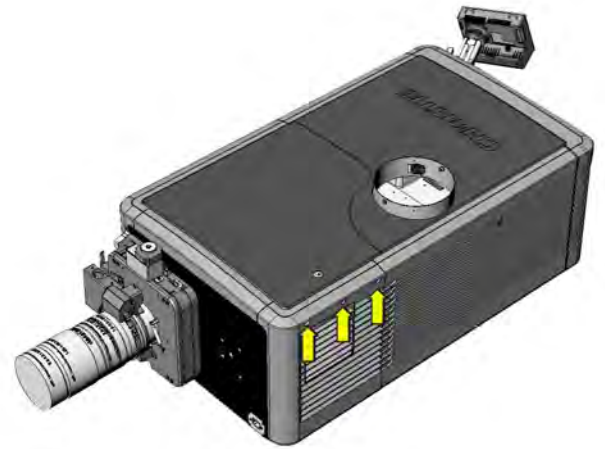

Figure 5-7 Remove Left Access Cover
1. Using a #2 Phillips™, loosen the three captive screws at the top of the cover. **(Figure 5-7)**